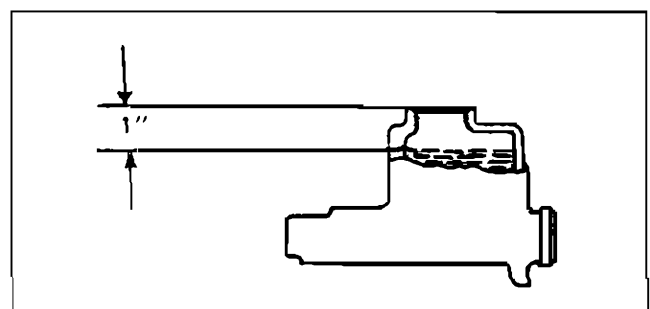

Fig. 5-14 Correct Fluid Level in Master Cylinder
6. Check fluid level to within 1" of top of cylinder (Fig. 5-14).